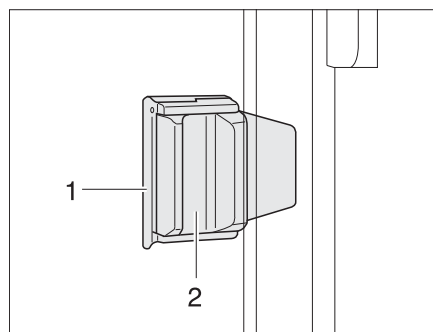

Fig. 58 Sliding window with slide lock
- Pull out the lock (Fig. 58,1).
- Press handle (Fig. 58,2) and push it forward or backward at the same time.
- Turn the locking knob (Fig. 58,1) into the vertical position.